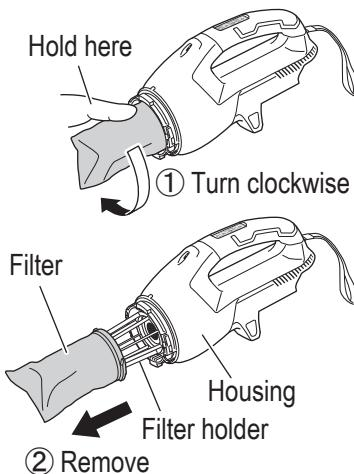

Fig. 7
(2) Remove the filter. (Fig. 7)